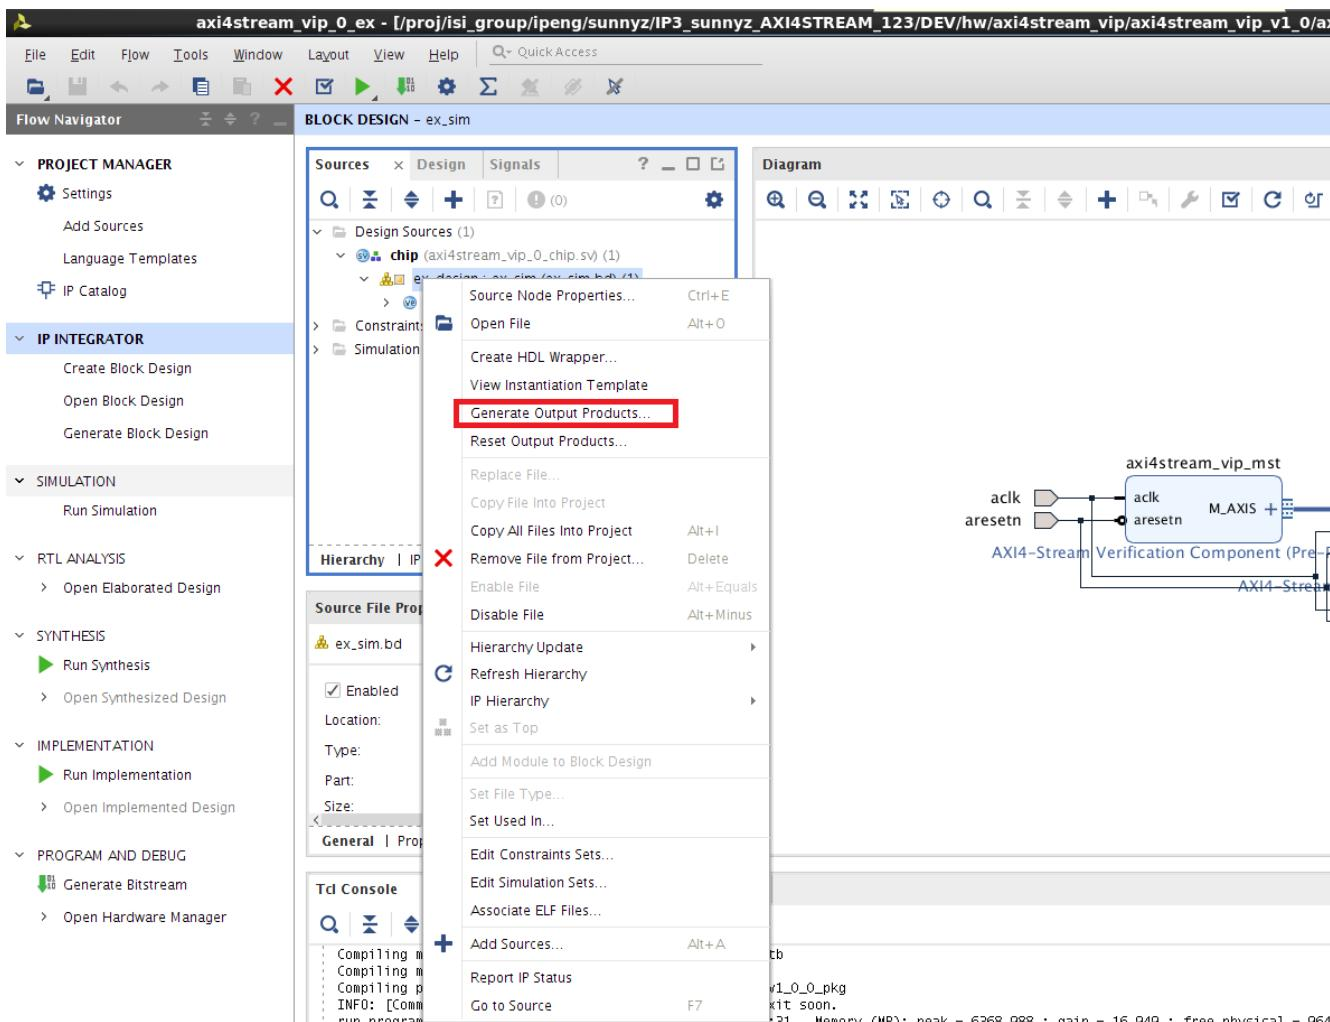

Figure 4-8: Generate Output Products
1. Right-click **bd design** and select **Generate Output Products** (Figure 4-8).